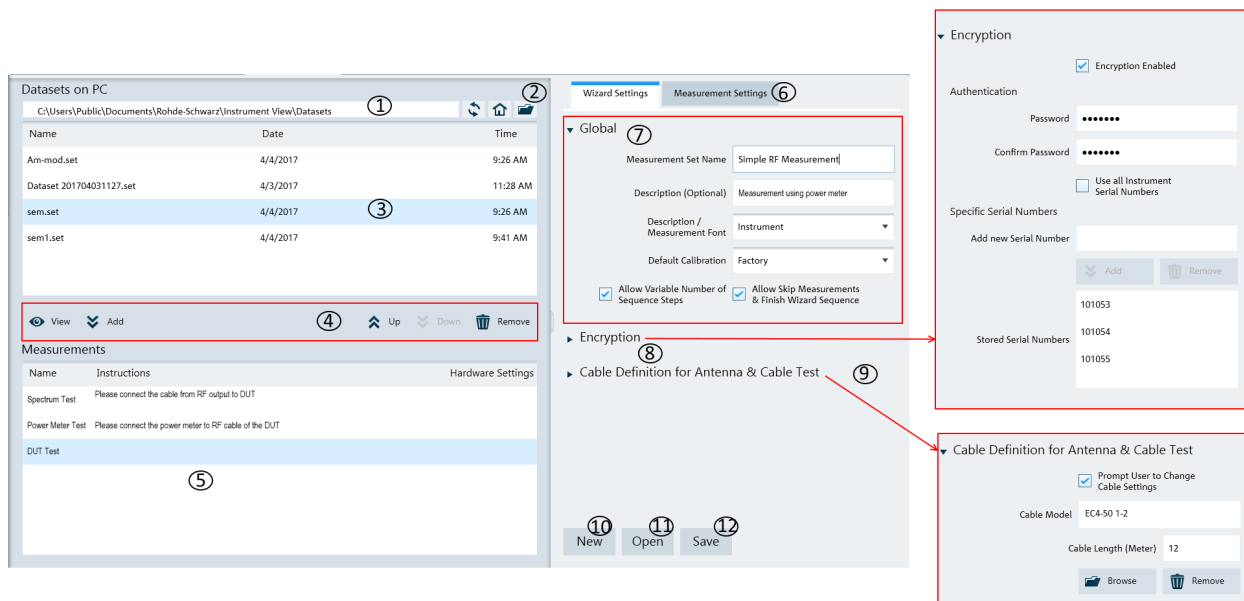

Figure 5-32: Wizard editor
The measurement table list forms the measurement sequence in the wizard set. See item 5 in Figure 5-32
The "Wizard " editor allows you to open, edit and save the measurement wizard set. See Figure 5-32.
To arrange the measurement sequence in the wizard set, double clicked or "Add" the desired dataset from the PC folder directory to the measurement table list. See index 4 and 5 of Figure 5-32.
Navigates from the list of datasets in the measurement table list (see index 5 of Figure 5-32) and select the desired dataset for configuration.